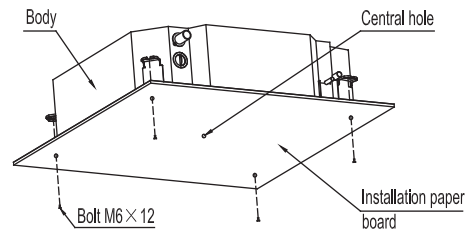

Fig.5-6
- 2 After installing the body, please fasten the installation paper board onto the air conditioner with bolts(M6x12) to determine in advance the sizes and positions of the hole opening on ceiling. (Refer to Fig.5-6)